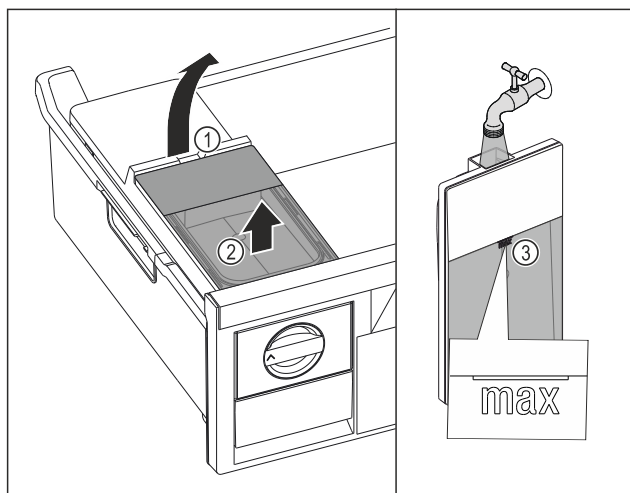

Fig. 76
- Lift the water tank at the recess Fig. 76 (1).
- Remove the water tank by lifting it upwards. Fig. 76 (2)
- Fill the water tank with drinking water up to the mark Fig. 76 (3).